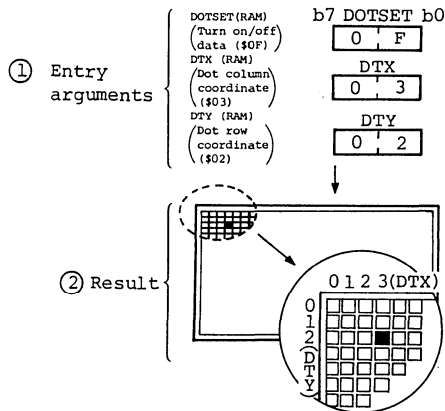

Figure 1-6. Example of L2HDST Execution
b. Example of L2HDST execution is shown in figure 1-6. If entry arguments are as shown in part ① of figure 1-6, 1 dot is displayed as shown in part ② of figure 1-6.